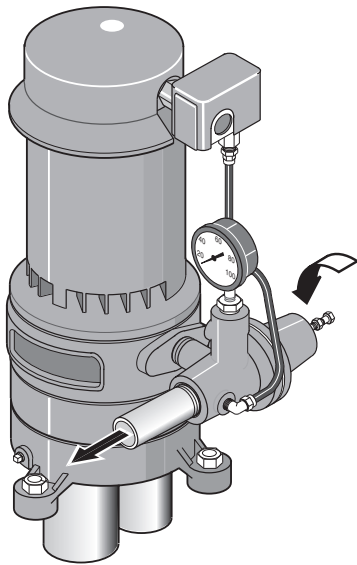

Figure 11: Close Regulator
- a. Close regulator valve (turn clockwise - see Figure 11).